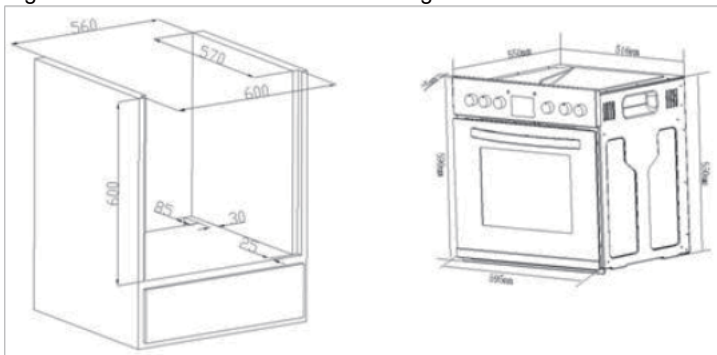

Figure 3
2. Assembly of the oven:(As shown figure 3)